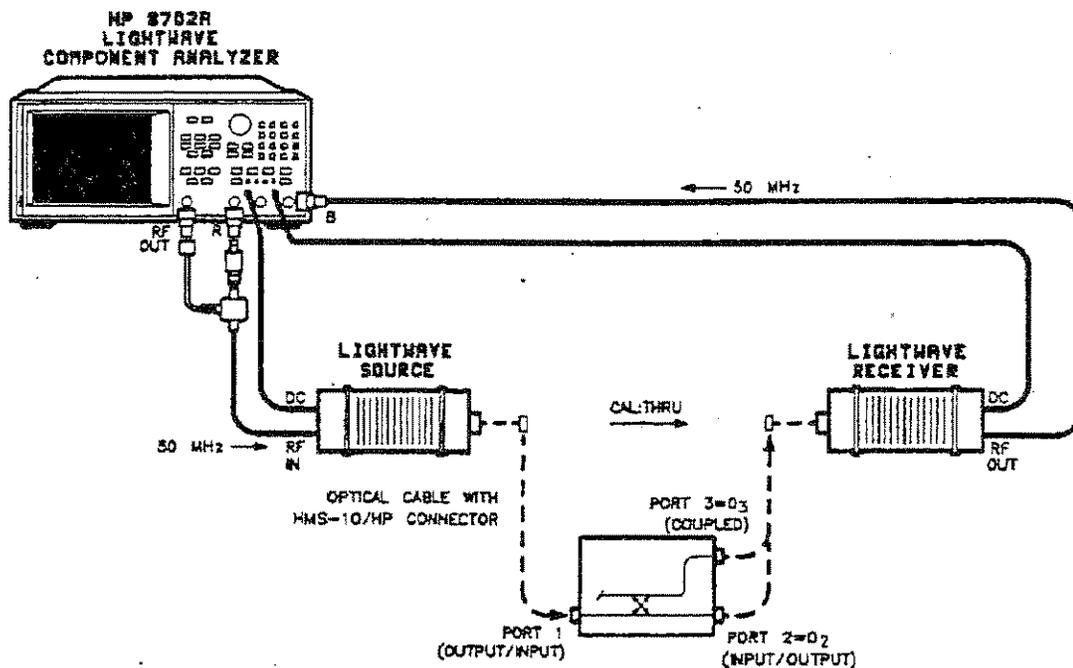

Figure 5. Coupling Ratio and Excess Loss Test Setup
**NOTE:** Refer to and use the same test parameters and test setup of figure 5 above (Coupling Ratio test).